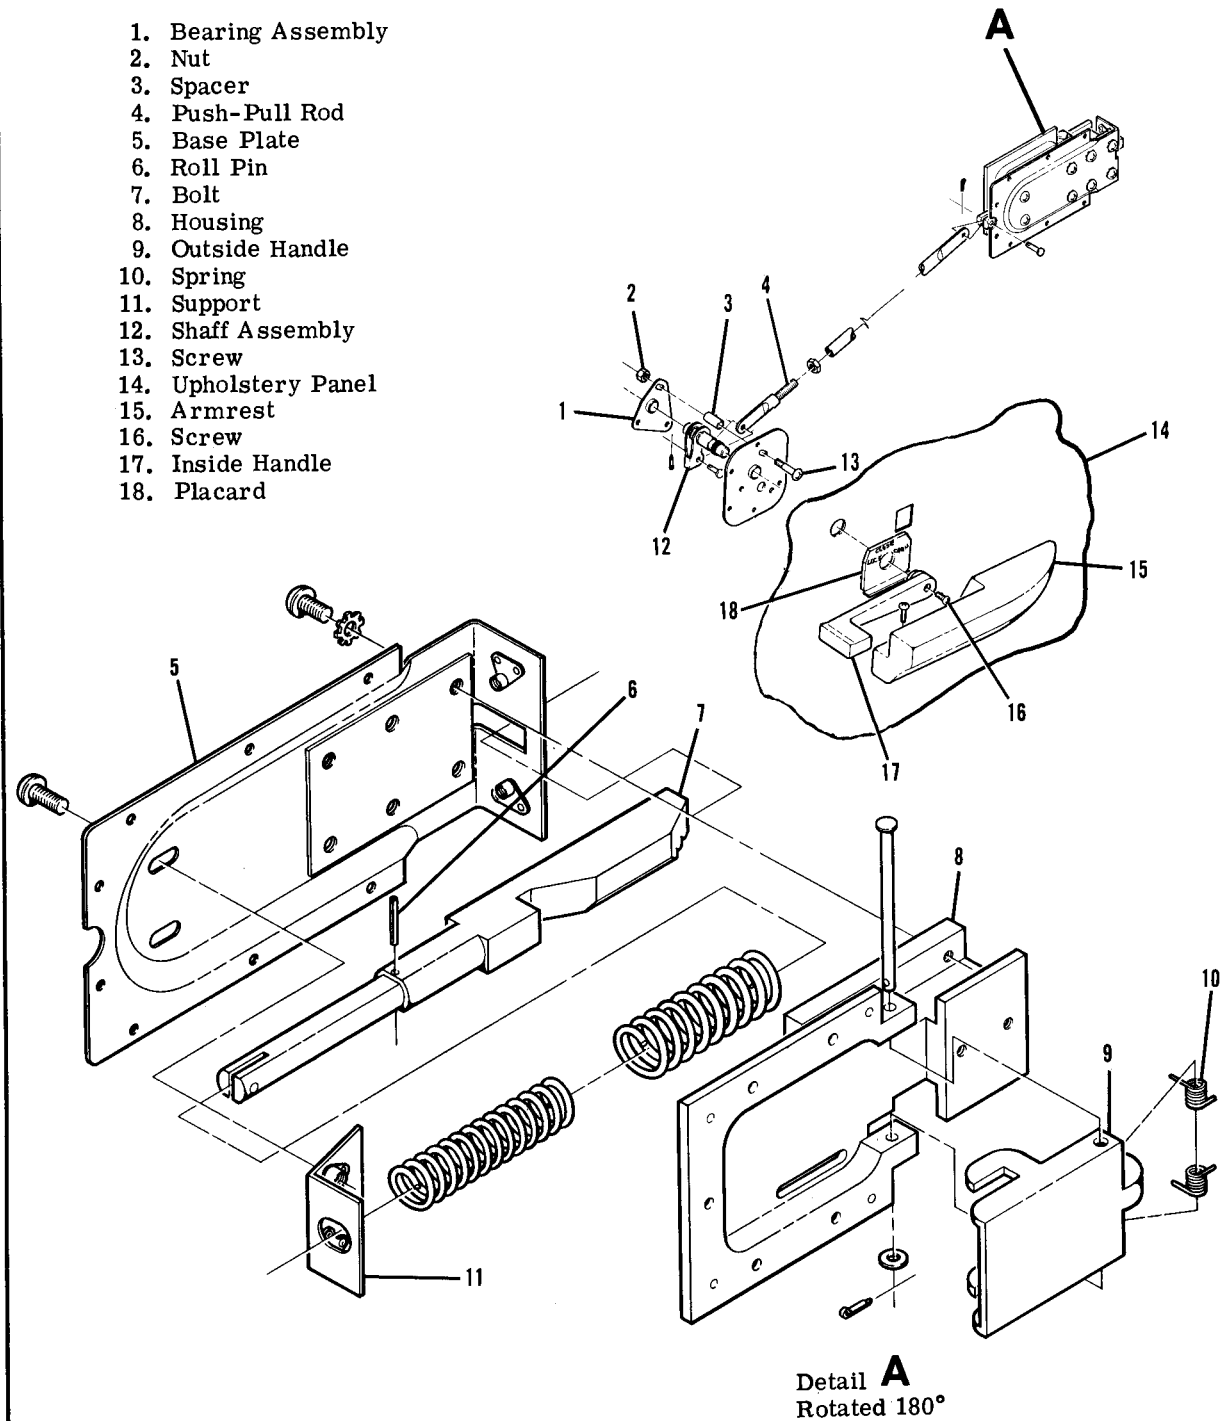

Figure 3-4. Door Latch Installation
3-25. LATCHES. (Refer to figure 3-4.)
3-29. INDEXING INSIDE HANDLE. (Refer to figure 3-4.) When inside door handle is removed, reinstall in relation to position of bolt (7) which is spring-loaded to CLOSE position. The following procedure may be used.
- a. Temporarily install handle (17) on shaft assembly (12) approximately vertical.
- b. Move handle (17) back and forth until handle centers in spring-loaded position.
- c. Without rotating shaft assembly (12), remove handle (17) and install placard (18) with CLOSE index at top.
- d. Install handle (17) to align with CLOSE index on placard (18), using screw (16).
- e. Install arm rest (15) on upholstery panel (14).